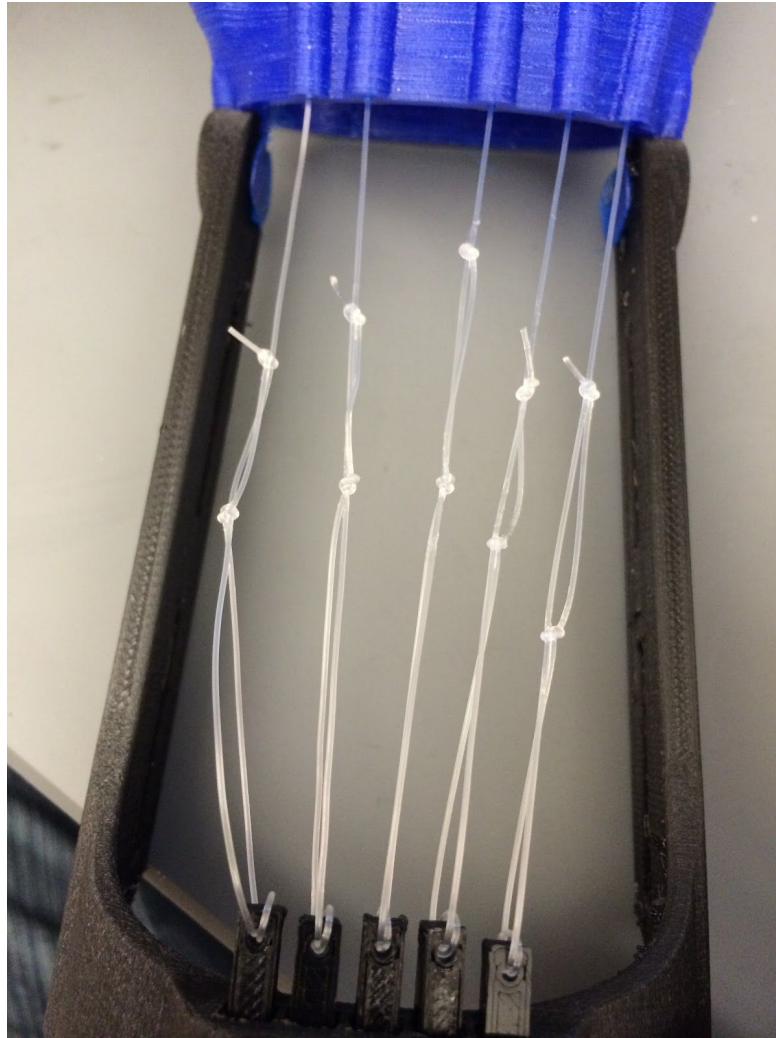

Fig.14: Hinges, Pins, and depiction of knots at Gauntlet level
- Insert the tensioner pins into the slots on the gauntlet and secure with a bolt. A picture of the above two steps can be seen in Fig. 14